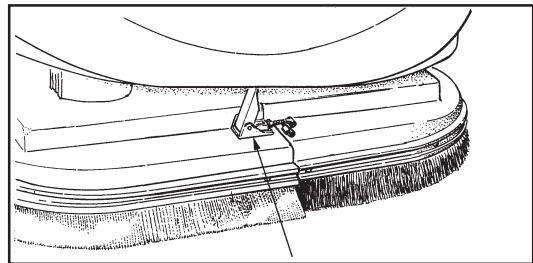

Figure 17A
5. Unlatch right and left brush housings and remove them. See figure 17A.